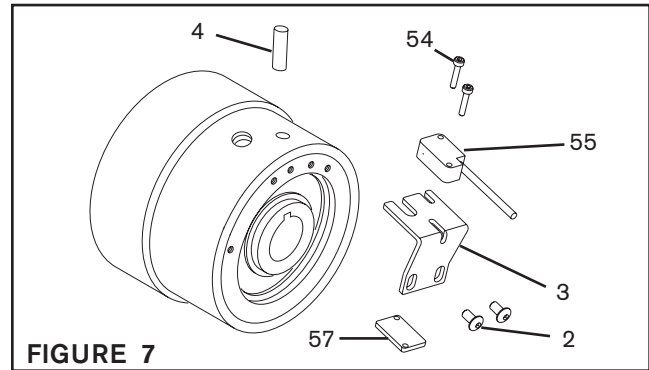

FIGURE 7
1. Install the Dowel Pin (Item 4) into the Torque Limiter (See Figure 7).
2. Using Cap Screws (Item 54), secure the Limit Switch (Item 55) to the Mounting Bracket (Item 3) (See Figure 7) using Mounting Plate (Item 57).
3. Using Cap Screws (Item 2), mount the Mounting Bracket (Item 3) onto the Torque Limiter (See Figure 7).